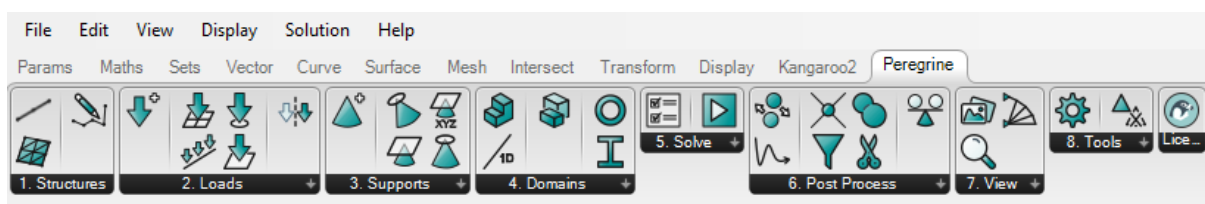
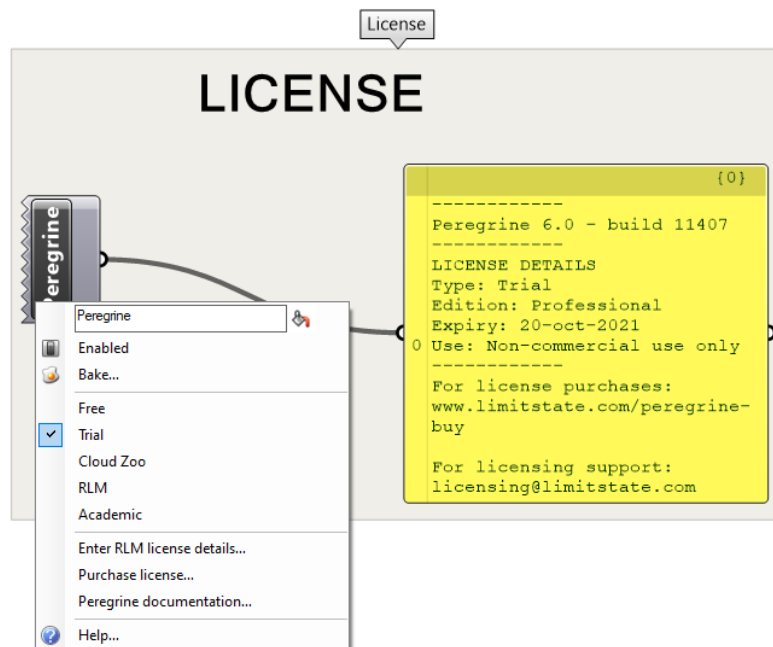

Figure 1 – The Peregrine tab on the Grasshopper component panel (ribbon)
Figure 2 - Licensing options in the Peregrine License dialog
Following installation of Peregrine, a new category called Peregrine should be visible as a tab on the component panel (Figure 1) when starting Grasshopper (GH).
The Peregrine License component can be found at the right of the Peregrine toolbar (Figure 1). After dragging on to the canvas, right-clicking the component name provides the user with the ability to select between a number of different licensing systems (or Types), as seen in Figure 2: